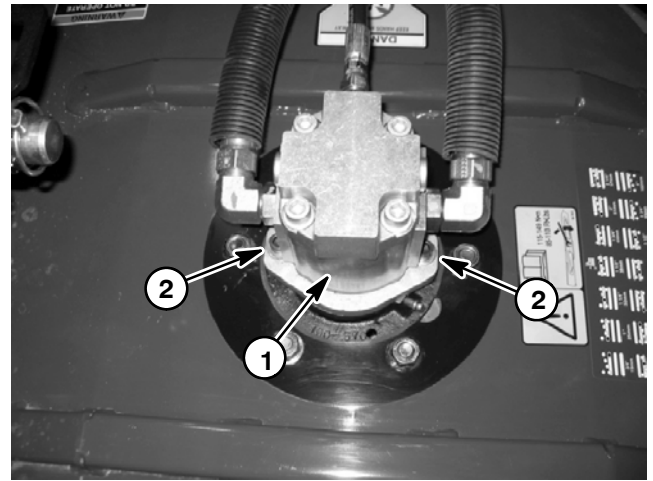

Figure 14
2. Remove two (2) socket head screws and flat washers that secure hydraulic motor to the cutting unit (Fig. 14). Remove hydraulic motor from deck. Locate and retrieve o-ring from top of spindle housing.
6. Remove six (6) cap screws and flange nuts securing spindle housing to deck. Lower spindle assembly out the bottom of the deck. Remove spindle plate from top of deck.